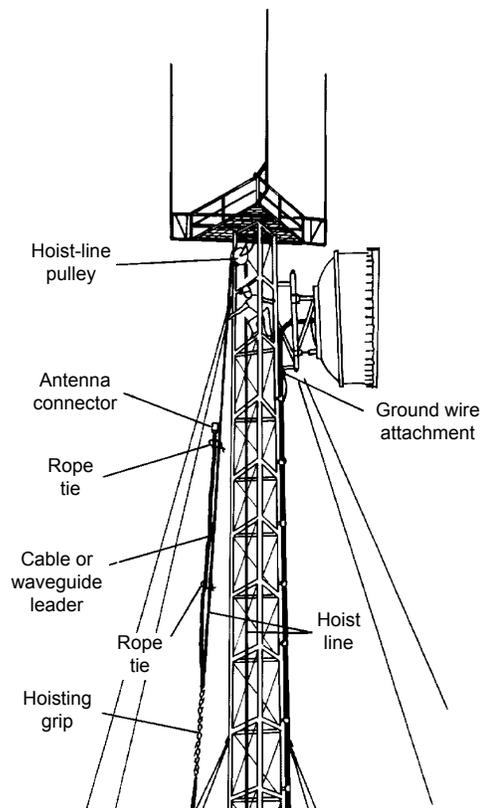

Figure 7
7. Attach the hoist line to the grip. See **Figure 7**. Tie the cable leader to the hoist line so that the leader does not dangle. Apply tension slowly to the hoist line to allow the hoisting grip to tighten uniformly on the cable.